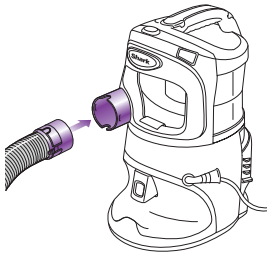

Fig. 1
- 1 Insert the end of the flexible hose into the connector on the front of the **Lift-Around™** Portable Vac. (**fig. 1**)